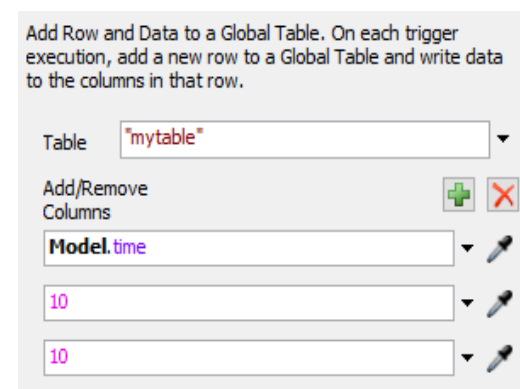

Fig. 11 Add Row and Data to Global Table option.
5. **Add Row and Data to Global Table** – allows you to add another row to the given global table (*Table field*) and fill the next cells with appropriate values according to the established column layout. The green cross adds fields corresponding to columns in the target table, in which the method for entering values is defined (Fig. 11).